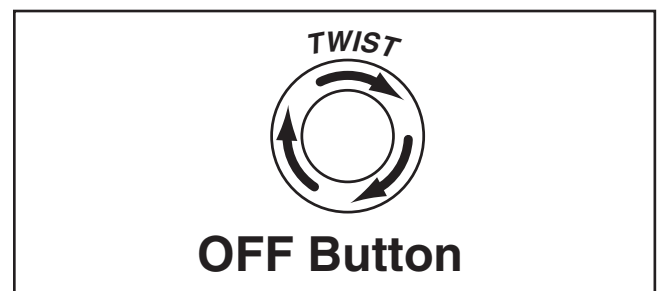

Figure 19. Resetting the OFF button.
4. Twist Emergency Stop button clockwise until it pops out (see **Figure 19**). This resets button so machine will start.